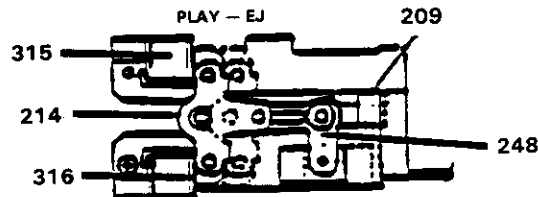

FIGURE 3-11. EJECT MODE
6. FF/REW to Play Mode - When the PLAY switch is pushed in FF or REW mode, a Solenoid (315 REW in FF mode or 316 FF in REW mode) is de-energized momentarily. Next, the FF/REW Solenoids (315/316) are energized at the same time, and the Mode Plate (209), Power Arm (208), and Power Plate (211), move to STOP position. The Mode Gear (260) starts turning and the Power Plate (211), Power Arm (208), and Mode Plate (209) all move to the PLAY position. The FF/REW Solenoid Armatures (315/316) are Positioned to move the Head Plate (203) forward. Then, as the Timing Arm (215) lifts off the Head Plate Shaft to lock the Mode Gear (260), the Cassette Tape returns to PLAY mode.
7. Auto Replay Function - When the Cassette Tape in either FF or REW mode, reaches the end of tape, the Reel Gears (222) stop turning, which is detected by the Photointerrupter (312). A Solenoid (315 in FF mode or 316 in REW mode) is then momentarily de-energized. Next, the FF/REW Solenoids (315/316) are energized at the same time, and FF/REW changes to PLAY.
8. Eject Function - When the eject switch is pushed, Solenoids (314, 315 & 316) are de-energized. First, FF/REW Solenoids (315 & 316) are de-energized, which causes the Mode Plate (209), Power Arm (208), and Power Plate (211) to move the EJECT position, (see Figure 3-11).